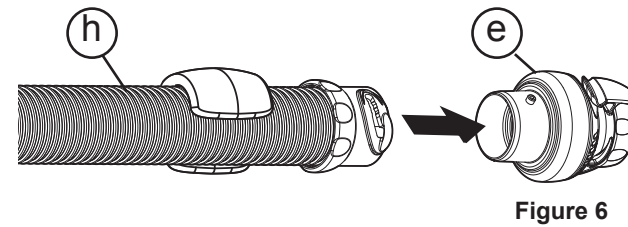

Figure 6
1. Attach the flow regulator valve (e) to the leader hose (h). Leader hose is the hose section with foam float pre-attached (Figure 6).